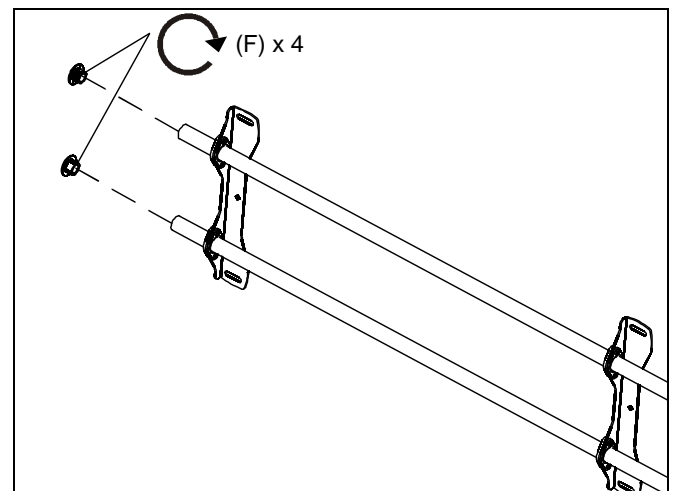

Figure 4
- Add a rail end cap (F) to both ends of each rail. (See Figure 4)